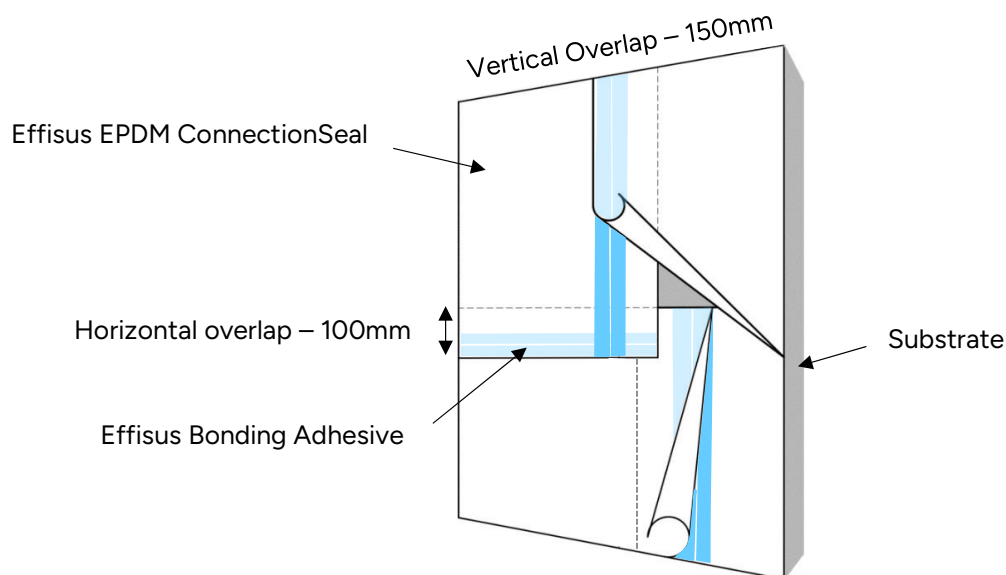

Figure 2 - Effisus EPDM ConnectionSeal Membrane – Overlapping Joints.
- Vertical joints should overlap by 150mm minimum and be staggered or offset wherever possible (see Figure 2).